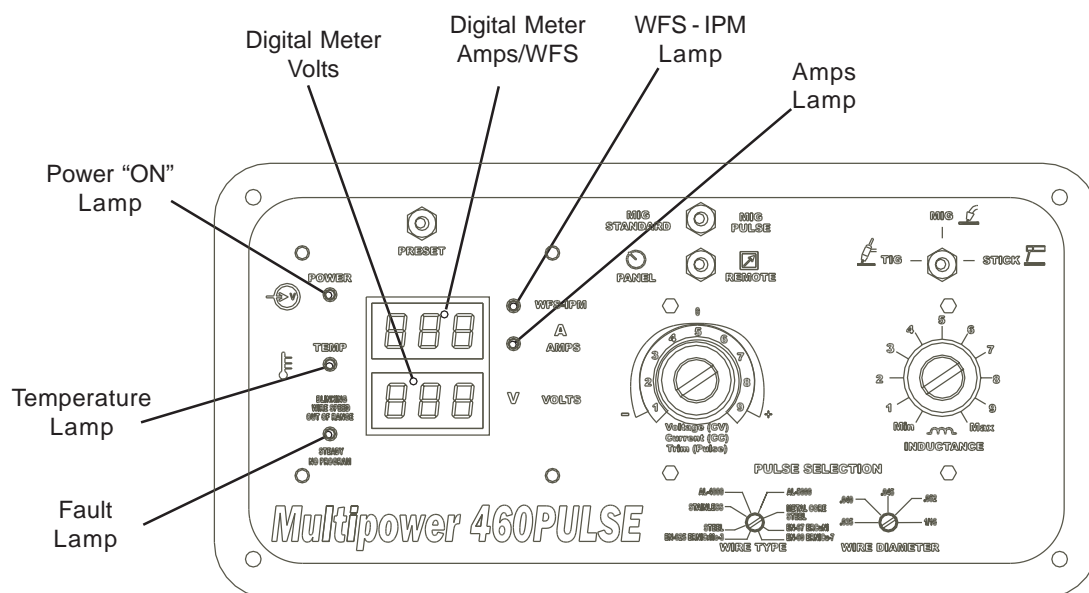

Figure 2-3. Pulse Control Panel
C. CONTROL PANEL DESCRIPTION (Refer to Figures 2-3 and 2-4)**1. FAULT LAMP**